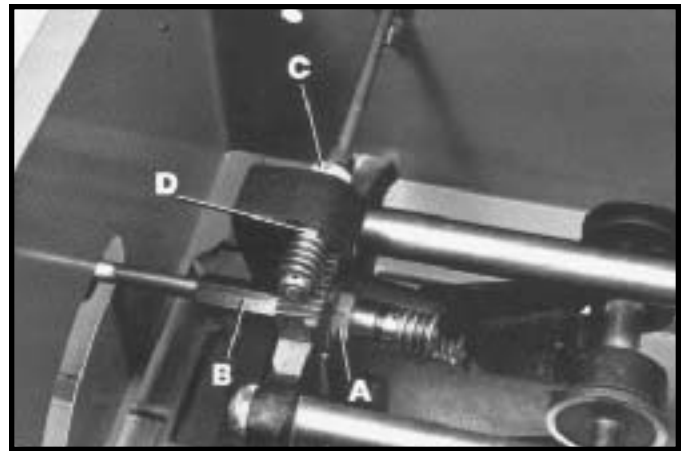

Fig. 83
3. Adjusting blade raising mechanism - Loosen lock-nut (A) Fig. 83, and turn eccentric sleeve (B) until all play is removed in mechanism and tighten locknut (A).
4. Adjusting blade tilting mechanism - Loosen lock-nut (C) Fig. 83, and turn eccentric (D) until all play is removed in mechanism and tighten locknut (C).